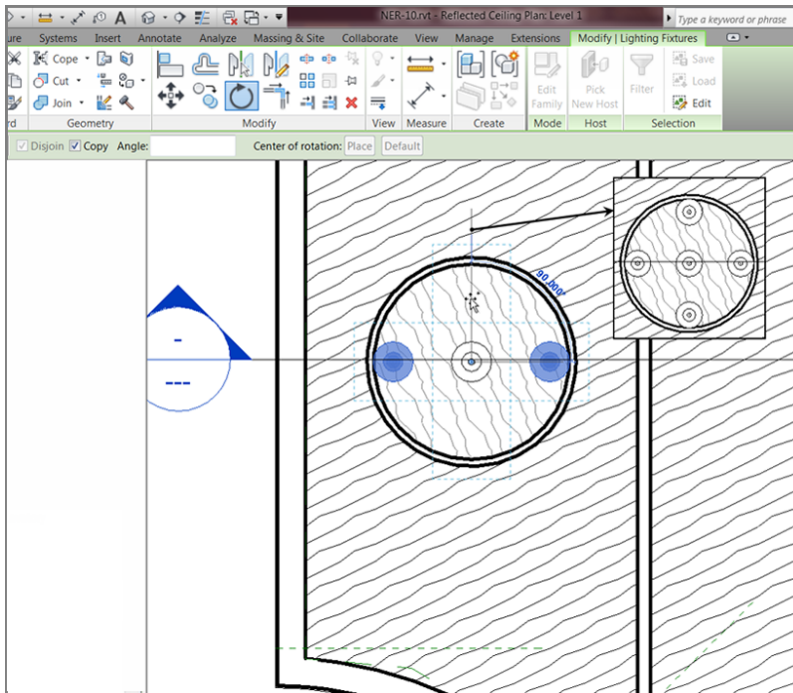

FIGURE 9.34: You're now copying and rotating as if you were in flat, 2D Autodesk® AutoCAD® software.
6. Rotate the fixtures 90° to create a total of five fixtures, as shown in Figure 9.34.